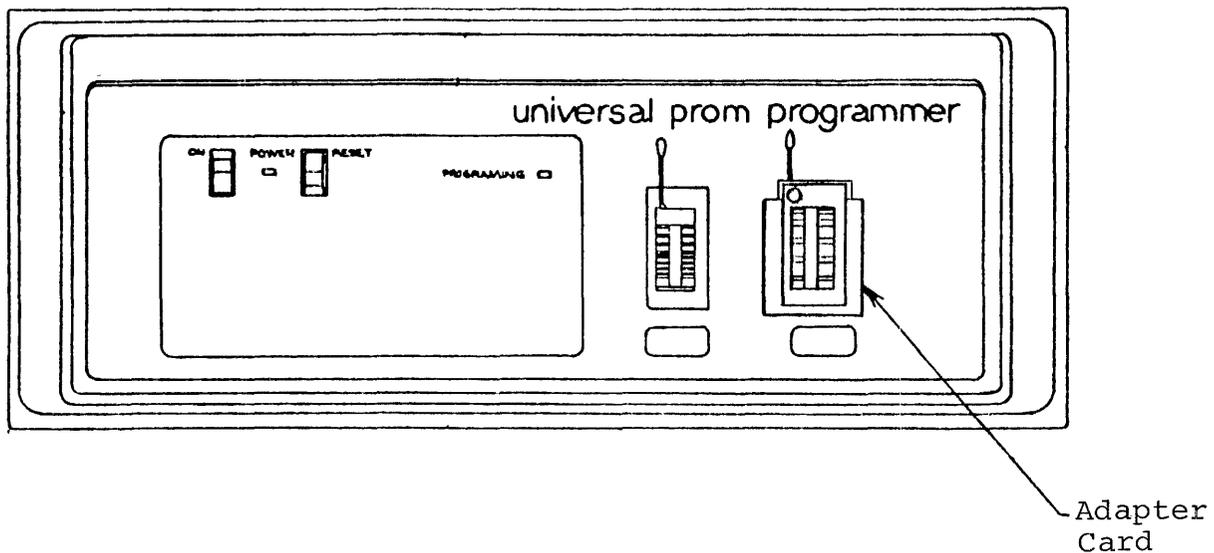

FIGURE 5-3
- 1) Insert the adapter in the 24 pin socket connected to the UPP-864 Personality Card previously installed (see Figure 5-3).
- 2) Insert the adapter such that the lever on the adapter is on top (see Figure 5-3).